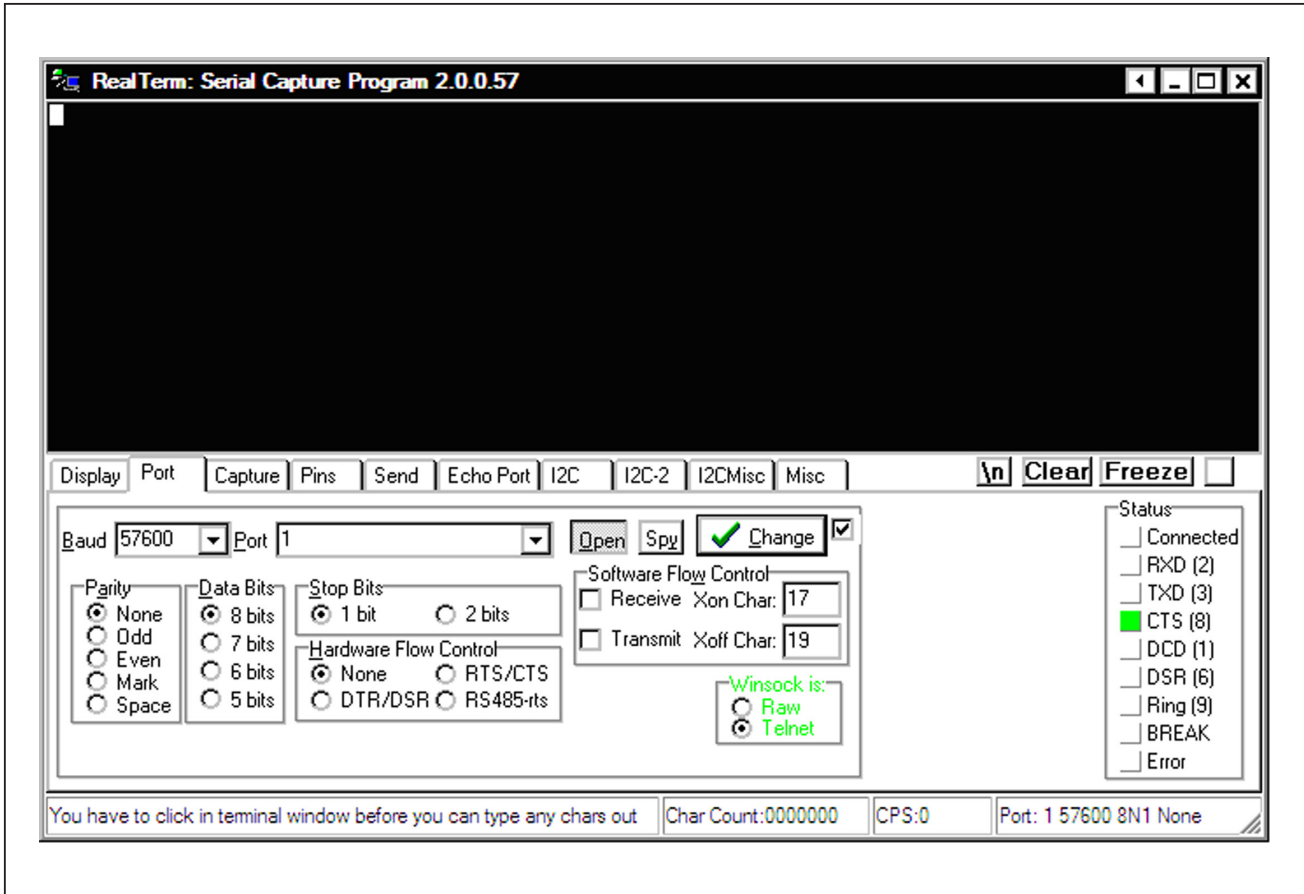

Figure 1. RealTerm Software Main Window (Port Tab)
- 6) Start the RealTerm software by opening its icon in the **Start | Programs** menu. The RealTerm software main window appears, as shown in Figure 1. **Note:** If the serial cable is connected to a serial port other than COM1, bring up the **Port** tab and open the corresponding serial port.